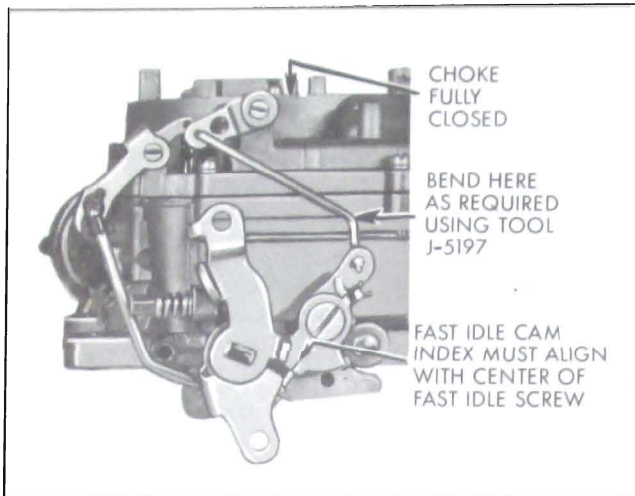

Figure 3-44—Fast Idle Cam Adjustment
4. Adjust Fast Idle Cam Position. With choke valve held fully closed, open throttle slightly to allow fast idle cam to spring to a neutral position. Now index mark on fast idle cam must align with center of fast idle screw. If mark does not align, bend fast idle rod using Tool J-5197 as required to make mark align. See Figure 3-44. **NOTE:** With choke fully closed and index mark aligned, lug on fast idle cam must clear stop on throttle body.